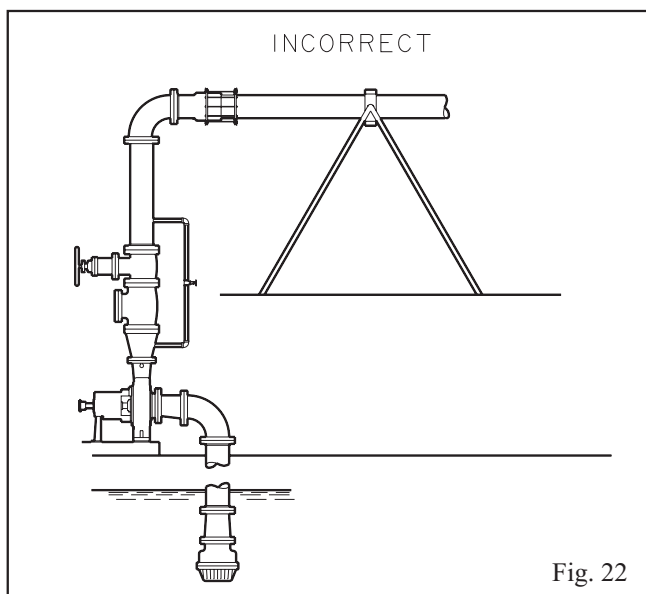

Fig. 22
4. It is suggested that expansion loops or joints, if used, be properly installed in suction and/or discharge lines when handling liquids at elevated temperatures, so linear expansion of piping will not draw pump out of alignment (Fig. 22 & 23).